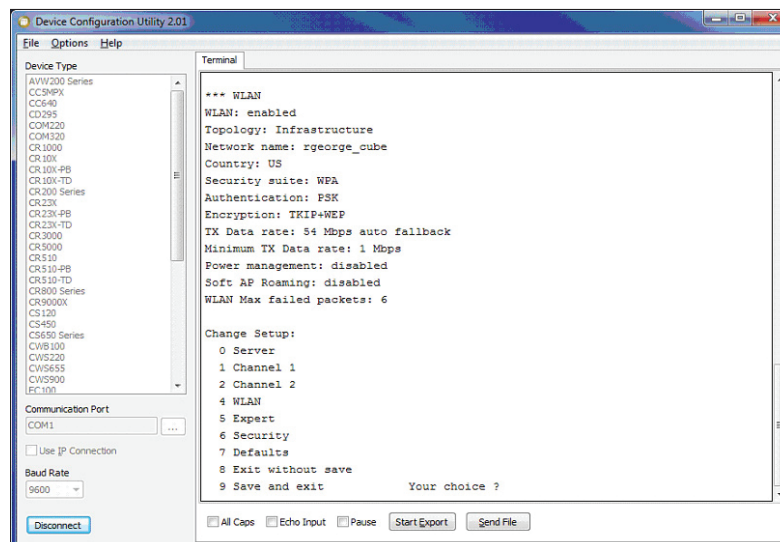

Figure 4. Terminal window in the serial mode.
- Select “0” on the “Change Setup” menu then press “Enter” to configure server settings (see Figure 4).